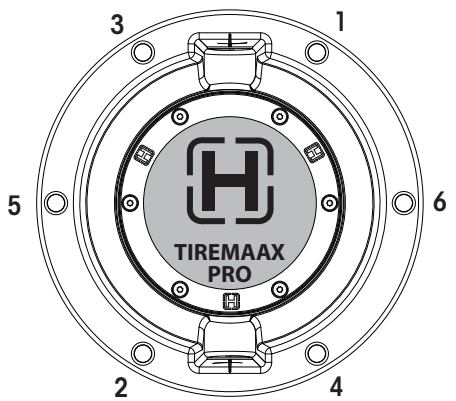

Figure 2: 6-bolt hubcap torque pattern
- 8. Tighten** hubcap bolts in the order shown to 15±3 ft. lbs. (20±4 Nm) of torque (Figure 2).